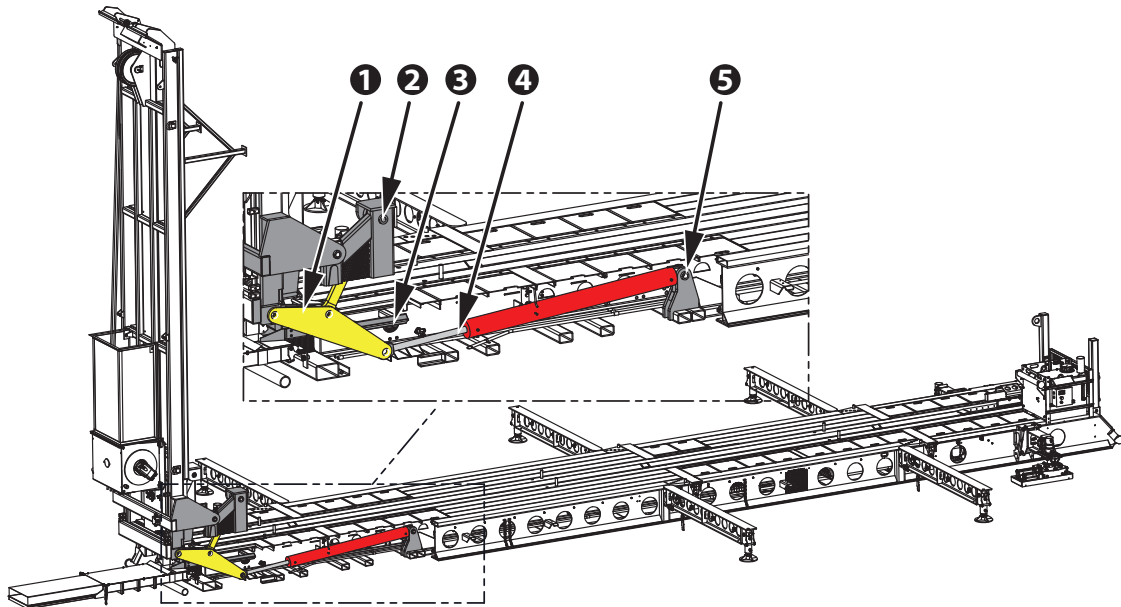

Figure 3: Inspect hydraulic ramp pivot mechanisms for damage
- When rocking back and forth, the ramp acts as a lever and imparts stress on mechanical components (see Figure 3) essential for operation of the mechanism.